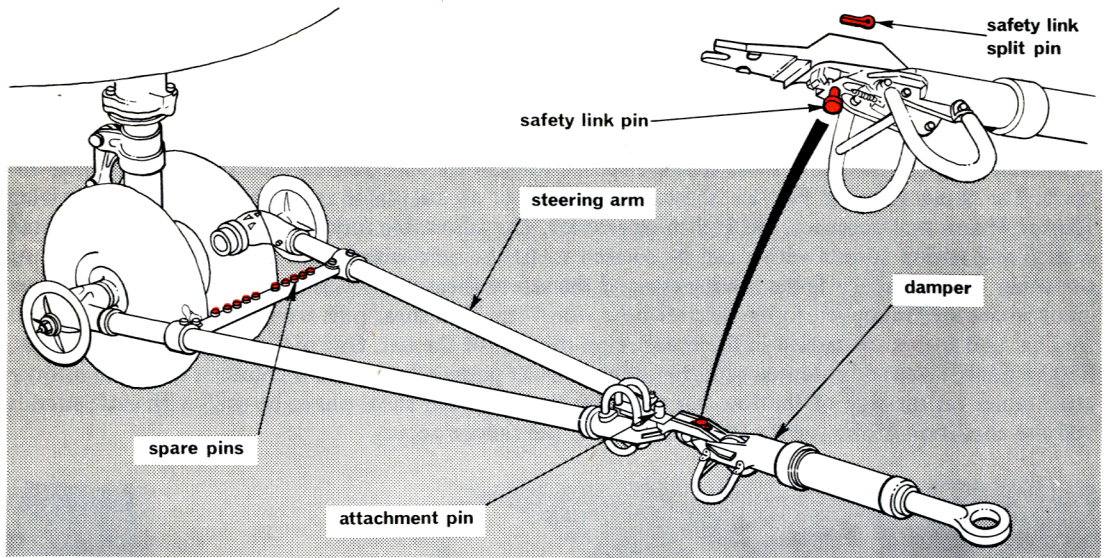

Fig. 16. Puma Tow Bar and Steering Arm
27. As an example of the special-to-type towing arm, Fig. 16 illustrates the versatile equipment used to tow and steer the Puma helicopter. The complete towing arm assembly, consisting of a steering arm and a spring-loaded damper unit, is used for towing the helicopter on airfield hardstandings and ground over which it could normally taxi under its own power. Over softer ground the aircraft is towed rearwards using cables, arranged as bridles, attached to the main landing gear and with the steering arm